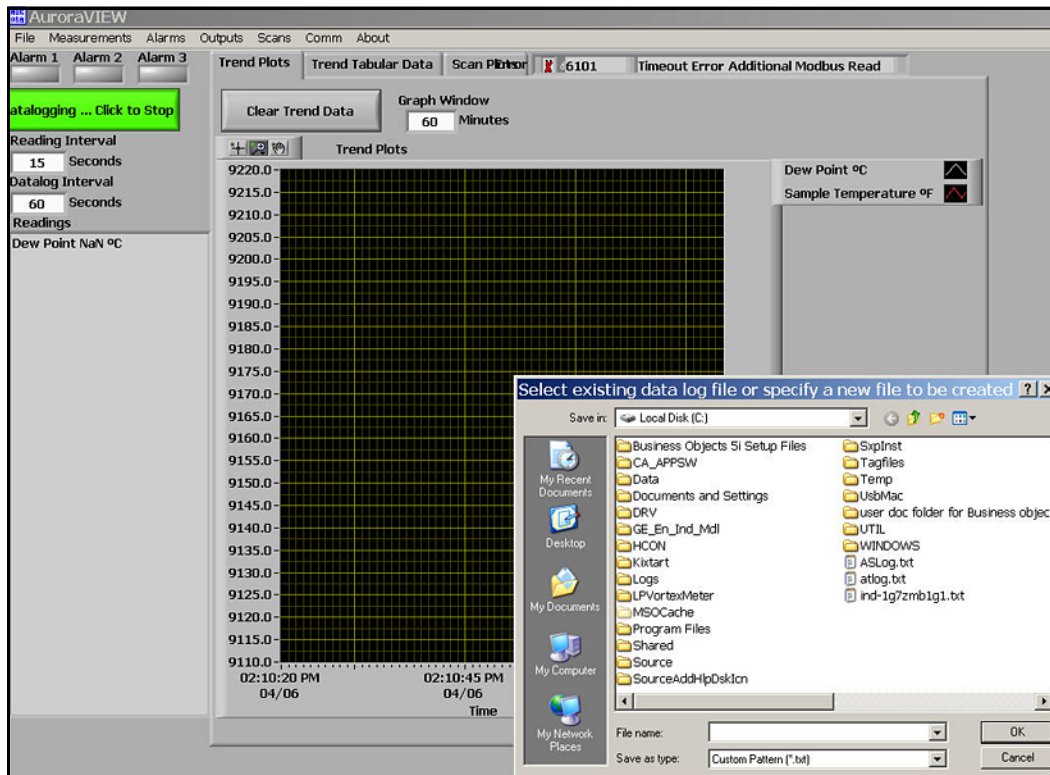

Figure 67: Datalogging with AuroraView
1. In the main view (see Figure 67 below), click on the button Click to Datalog.